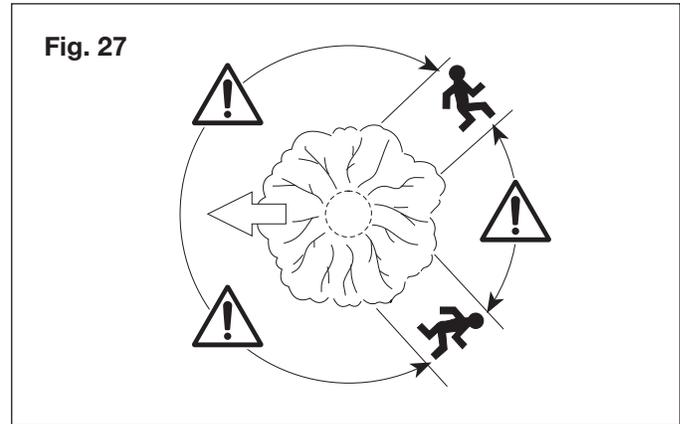

Fig. 27
- An escape path should be planned and cleared as necessary before cuts are started. The escape path should extend back and diagonally to the rear of the expected line of fall as illustrated (Fig. 27).